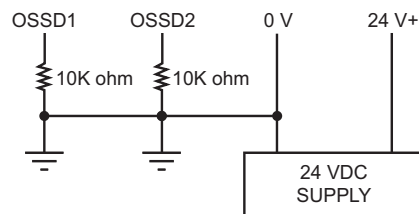

Figure 7-1 Connection of load to safety outputs for testing.
**Note:** The safety outputs must have a minimum load or the F3SL system will enter a alarm condition. For the purpose of testing prior to final installation, this load can be supplied by a 10K ohm resistor (included in documentation kit). See Figure 7-1 for details.